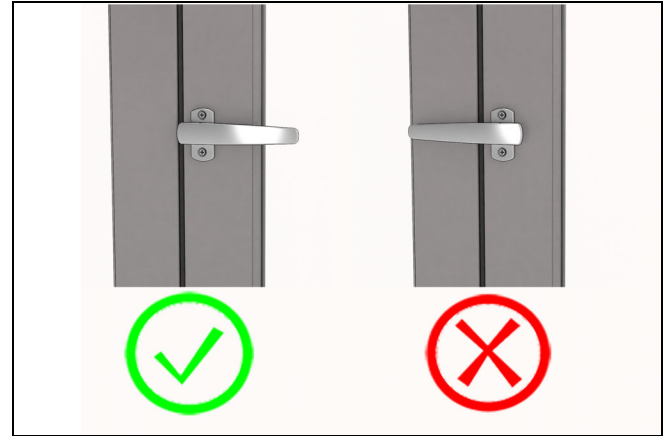

Figure 35
3. In the horizontal position (half turn) the twin bolt handle should be pointed towards the middle of the panel not the hinge line. See Figure 35. This position should also be used for screw install.